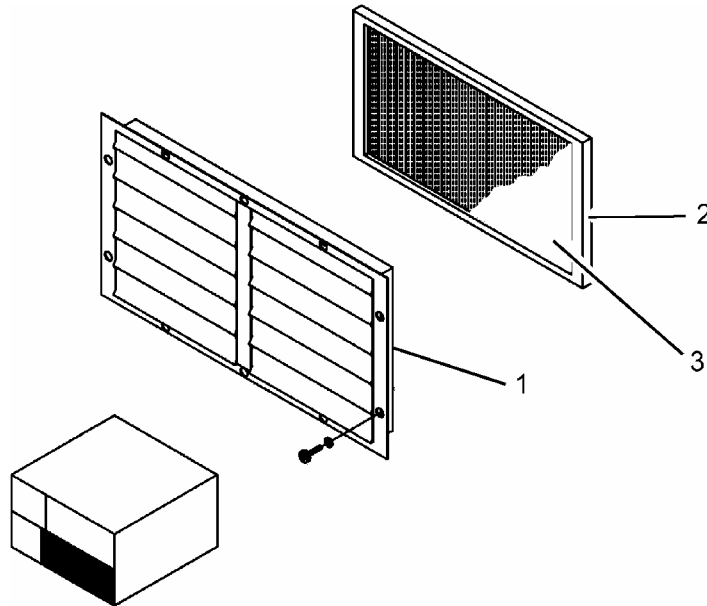

Figure 1. Evaporator Air Intake Filter
With the evaporator air intake louver (1) removed, remove evaporator air inlet filter (2) and filter media (3) by sliding the filter and filter media out from either side of louver casing. See figure 1.